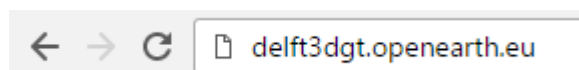

Figure 2.3 Surfing to Delft3D-GT in the web-browser
1. Open a web-browser and surf to <http://delft3dgt.openearth.eu> (Figure 2.3). NB: please note that Delft3D-GT is mainly designed for the Google Chrome, Mozilla Firefox and Safari web-browsers. On other web-browsers Delft3D-GT may not function optimally.